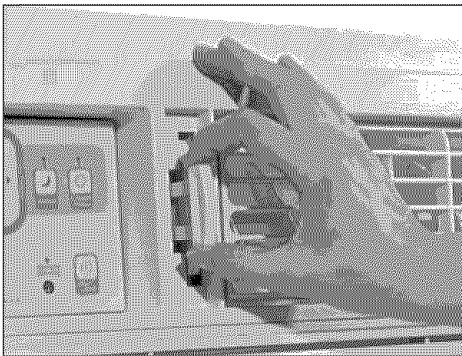

Figure 2 (FRESH AIR)
2. Draw fresh air into the rom — Vent Open (see Fig. 2)